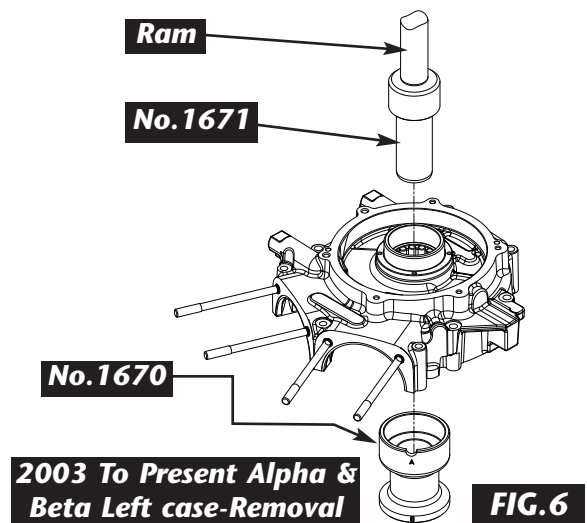

FIG.6
- Place the support tube No. 1670 with the lasered "A" end of tool facing upward on the hydraulic press table. **See Fig 6**
- Slide Pilot / Driver No.1671 through bearing to be removed and into support tube. **See Fig 6**
- Center pilot / driver No. 1671 under the press ram and apply pressure until bearing is free **See Fig 6**